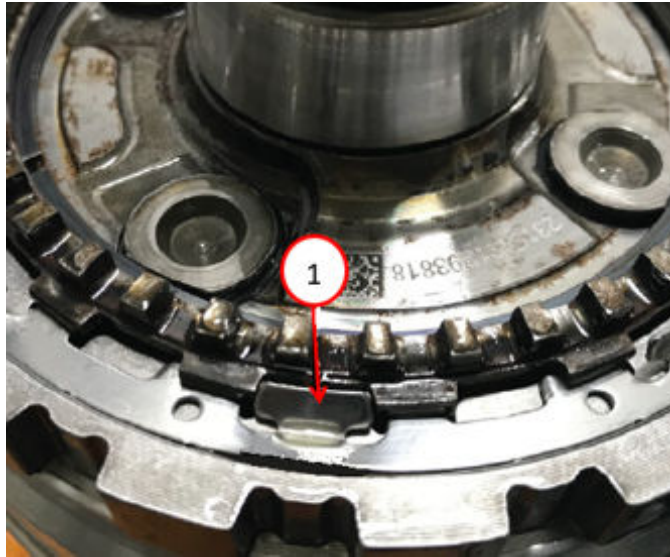

Fig. 26
42. Install the NEW P4 planetary carrier/output shaft lock ring from the P4 annulus drum by turning the lock ring to center the lock ring tabs in the output shaft tab openings and gently staking the locking tabs closed Fig. 26.